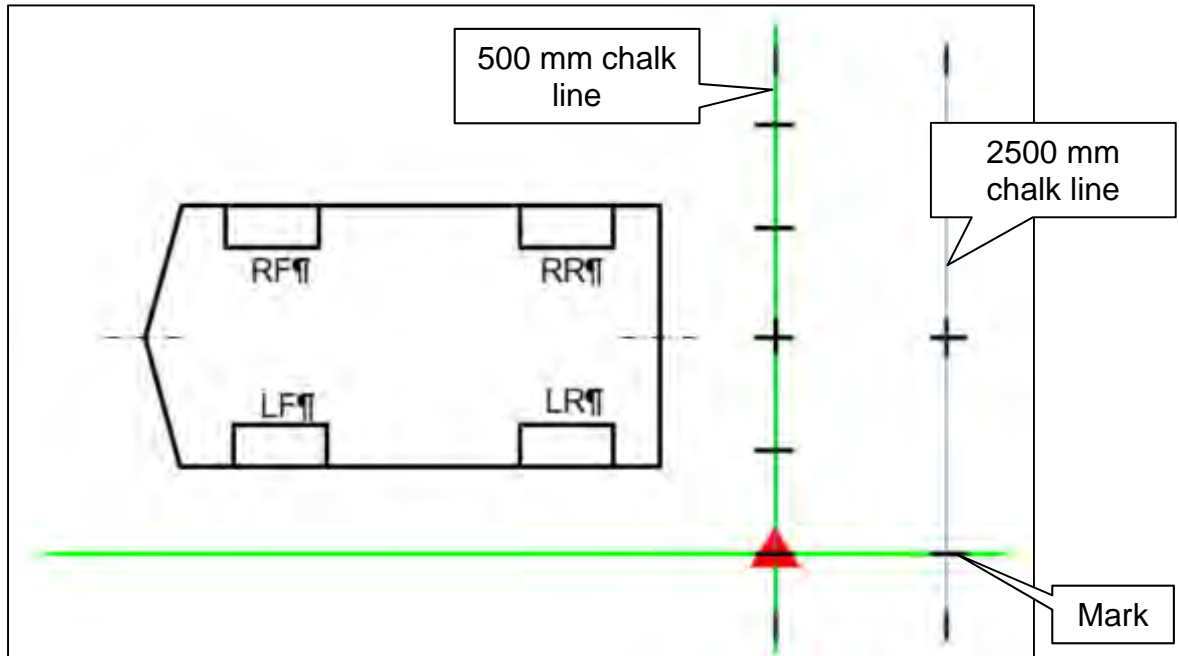
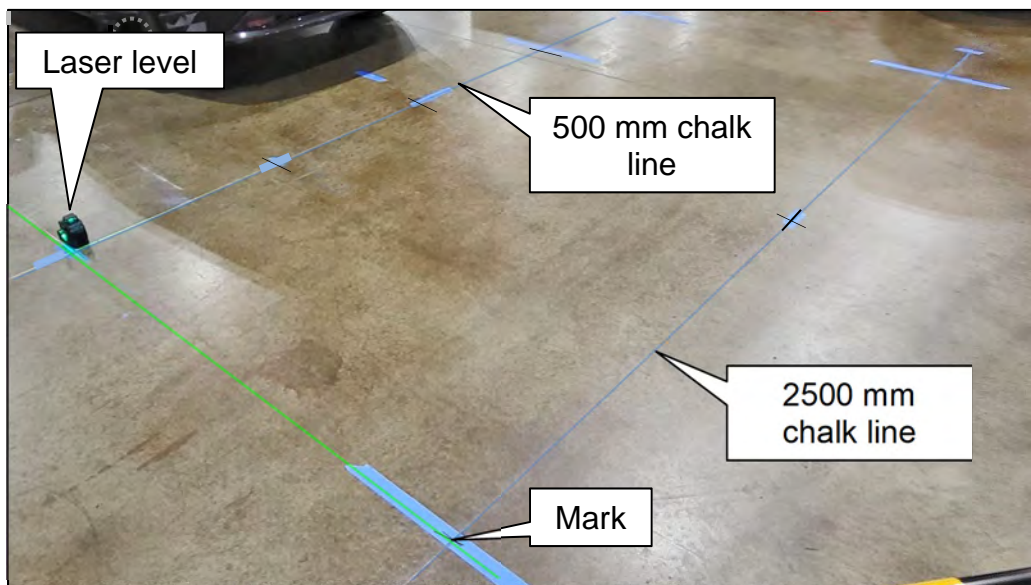

Figure 88
Figure 89
58. Move the laser level to the position shown in Figure 88, and then make a mark on the 2500 mm chalk line, as shown in Figure 88 and Figure 89.